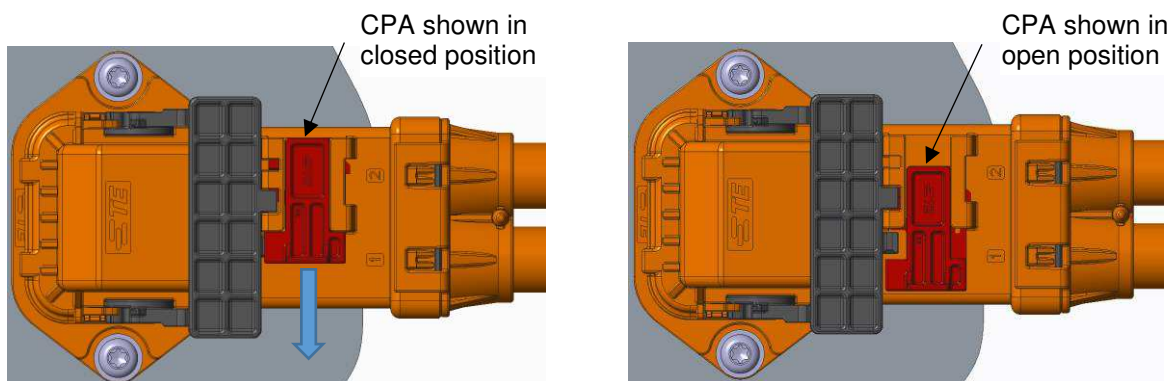

Figure 20: CPA Actuation from Close to Open
- Push the red CPA forward until it stops as shown in Figure 20.